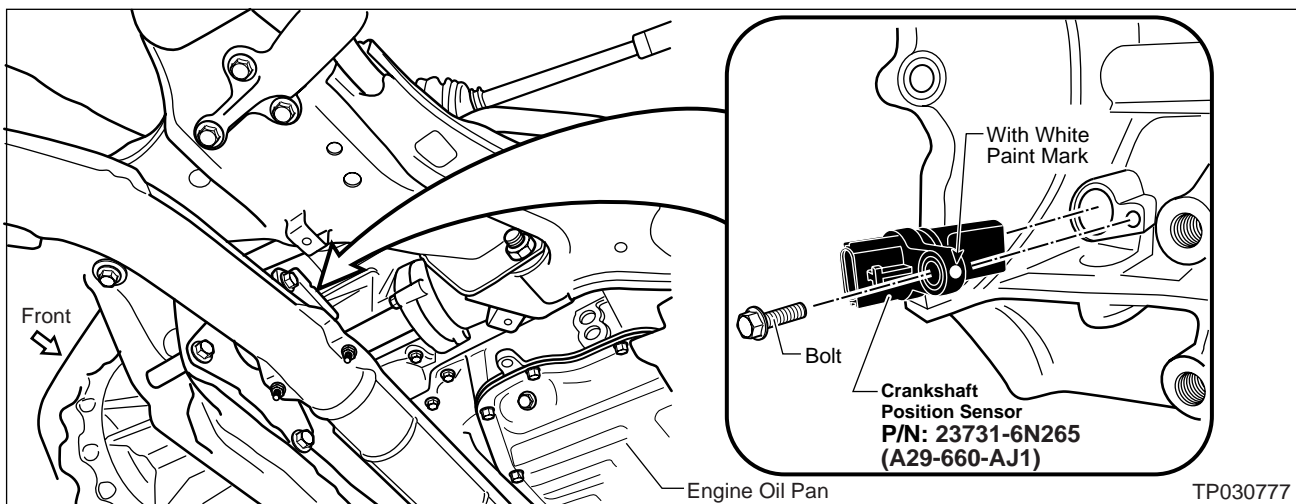

Figure 6
\* This sensor has a white paint mark on it (see Figure 6).
2. Locate the **Crankshaft Position Sensor** (see Figure 6).